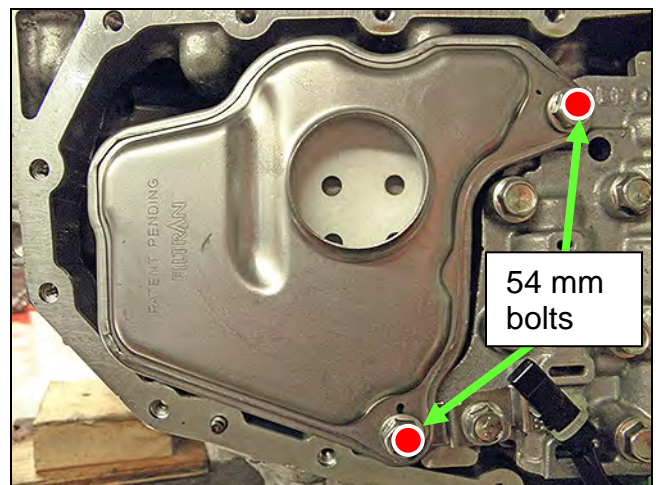

Figure 27
7. Install the new oil strainer with its new O-ring seal with two (2) bolts (Figure 27).